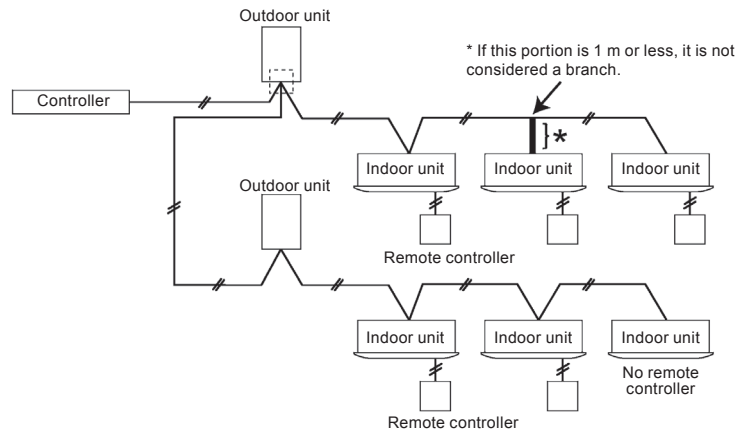

Figure 7
- Not include in branch within 1 m. (Figure 7)
- ③ Wiring without branching (Figure 7)